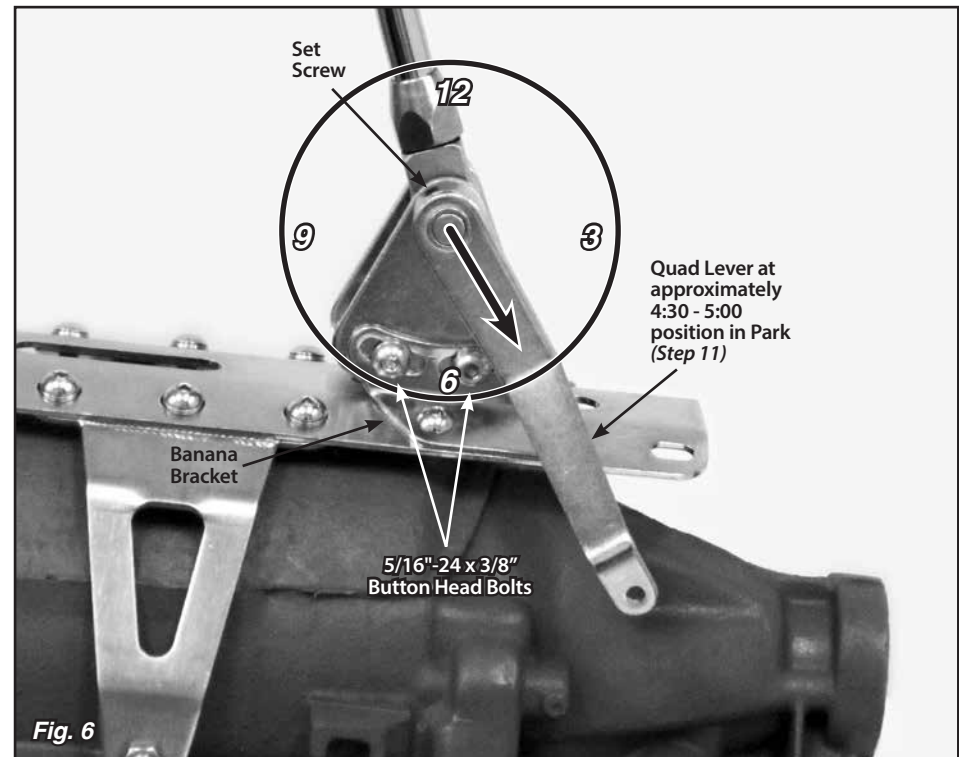

Fig. 6
Step 10: Make sure the two 5/16"-24 x 3/8" button head bolts that attach the left side banana bracket to the shifter assembly (in the curved, slotted holes) are tight. Before tightening the shifter assembly down to the main plate, move the shifter lever through all the gear positions. Make sure that the shifter lever and knob do not come in contact with the dash or the seat. The shifter assembly can be tilted forward or backward if needed by loosening the 5/16"-24 x 3/8" button head bolts in the curved, slotted holes in the left side banana bracket. **Fig. 6**
Step 11: Put the shifter lever into the Park position and check the position of the quad lever. It will need to be pointing to about the 4:30 position. If it is not, loosen the set screw in the top of the quad lever with a 1/8" Allen wrench and slide the quad lever off of the shaft. Reposition it on the shaft at approximately the 4:30 - 5:00 position, and retighten the set screw. **Fig. 6**
Double check to make sure that the bolts connecting the **left** side banana bracket to the shifter assembly are tight. **Fig. 6**